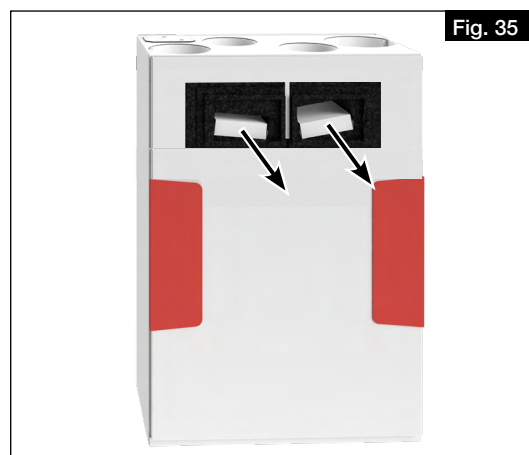

Fig. 35
2. Pull filter to the front and replace (see Fig. 35).